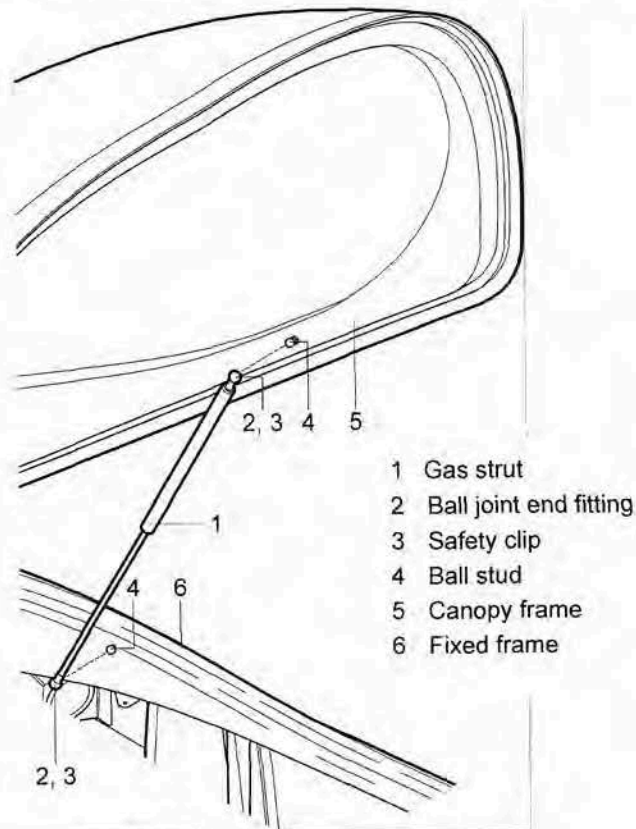

Fig. 3-5: Gas strut removal / installation
- (a) Open the canopy (5, Fig. 3-5); hold it.
- (b) Remove the safety clip (3) from the ball joint end fittings (2) on the canopy frame (5) and on the fixed frame (6).
- (c) Remove the gas strut (1).